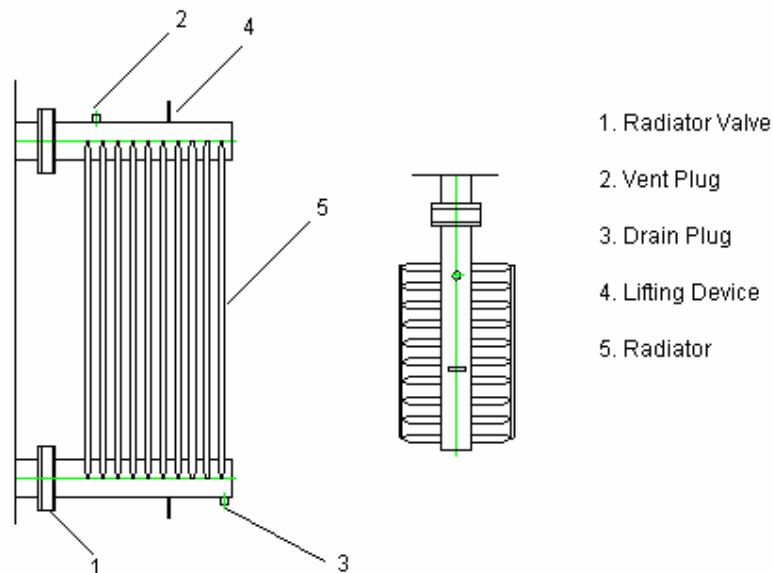

Figure 3 Radiator parts
When it is necessary to dismantle the radiators for transportation, They will be sent tightly closed with blind lids. The strangulation valves that are found welded or bolted to the main tank are dispatched in their close position and, are protected with blind lids. The general arrangement of the radiators is illustrated in the figure 3.
15. Install the purge stopper (2) indicated in the figure 3. if the tank is filled with nitrogen, if the tank is partially full with oil. See Fill up of radiators.